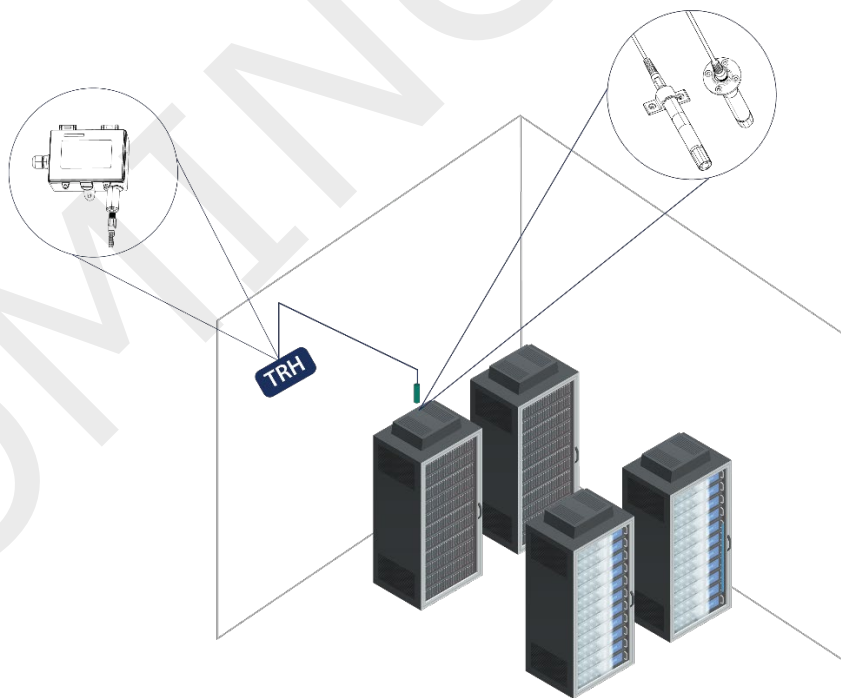

Figure 2: 3D
4. Identify the hot aisle area to locate the Temp/RH probe. If the rack cage is having multiple racks, use multiple Temp/RH probes or identify the perfect RA path to locate the Temp/RH transmitter as shown in above typical installation Figure 2